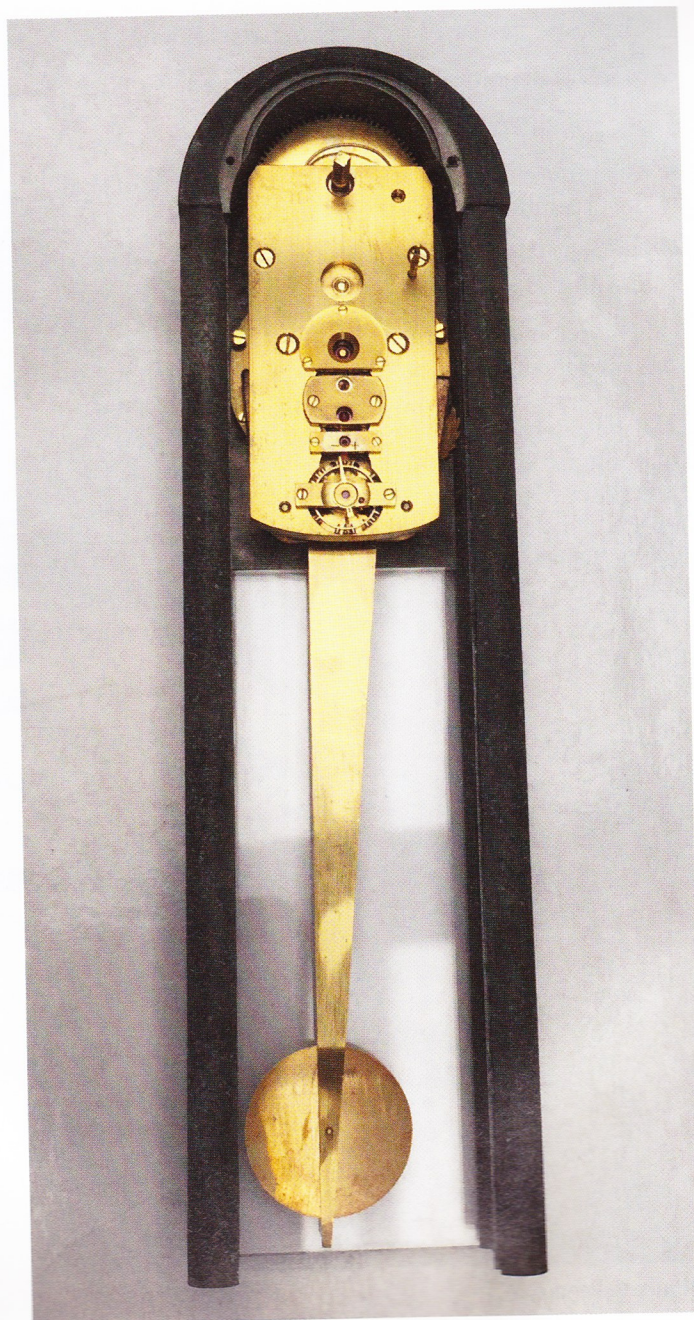

Figure 1. Rear view with backing removed.
- The movement has a balance wheel, a regular lever escapement, and train; however, it also has a pendulum (Figure 1)